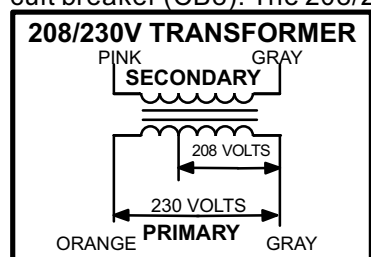

FIGURE 3
ers use two primary voltage taps as shown in figure 3, while 460 (G) and 575 (J) voltage transformers use a single primary voltage tap.